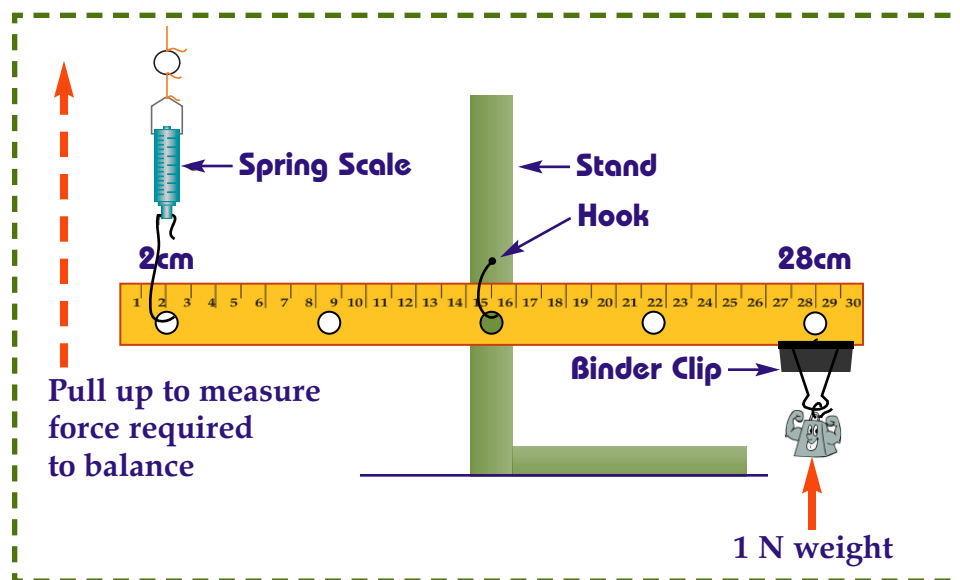

Figure 1 Constructing a First Class Lever
- a. Using the wooden stand with hook and wooden ruler, construct a first class lever. Place one binder clip onto the ruler so it will hang at its' center point on the hook of the wooden stand. Attach a second binder clip so it is centered over the 2 cm mark on the wooden ruler. Place a 1 N weight so that it hangs from a third binder clip placed at 28 cm on the wooden ruler. *See Figure 1 Constructing a First Class Lever.*